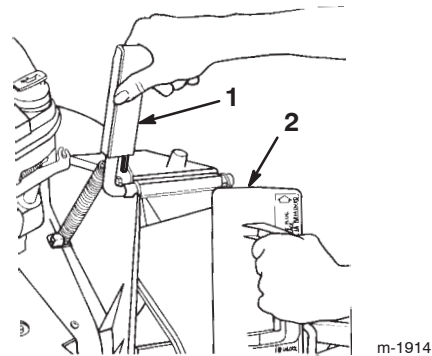

Figure 5
- Open the discharge door by pulling forward on the handle and moving it rearward (Fig. 5). Hold the discharge door handle to prevent the spring-loaded door from closing while you insert the plug.
- Since the plug is slightly wider than the discharge tunnel opening, rotate the plug clockwise slightly while inserting it (Fig. 5).